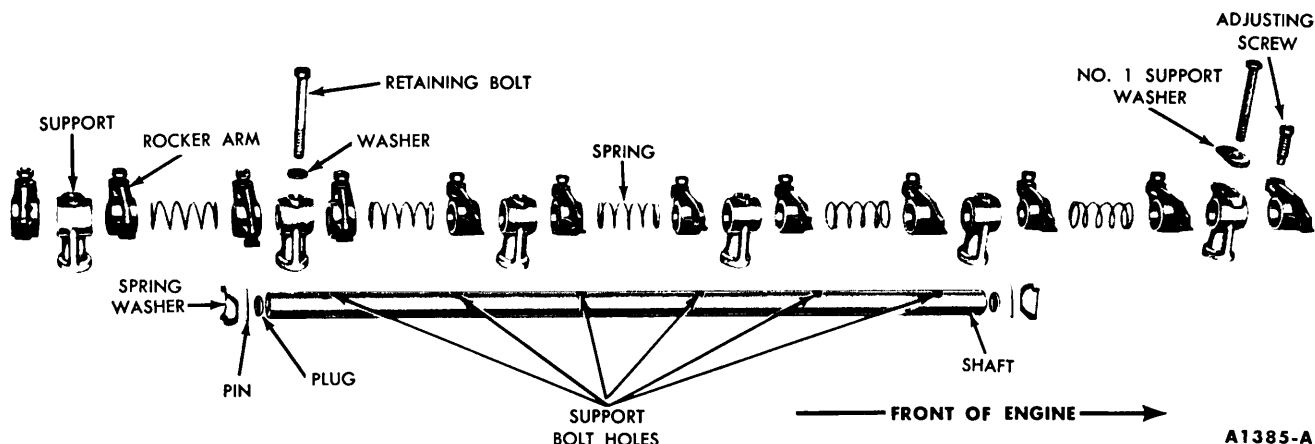

FIG. 29—Valve Rocker Arm Shaft Assembly
4. Install the valve rocker arms, supports, and springs in the order shown in Fig. 29. **Be sure the oil holes**